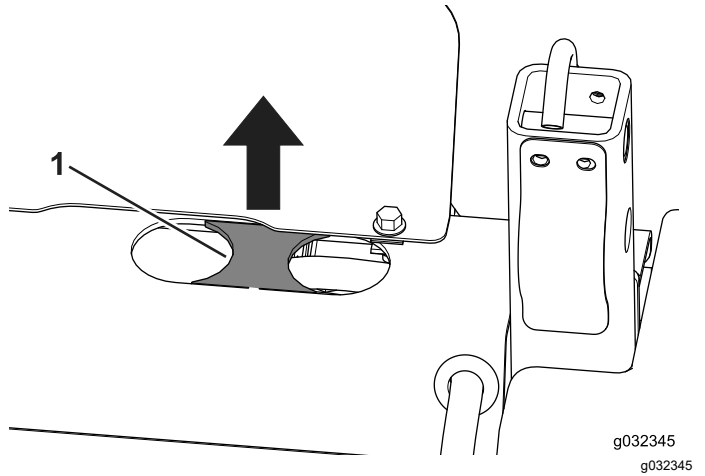

Figure 15
2. If it is present, remove the punch-out located between the 2 holes (Figure 15).